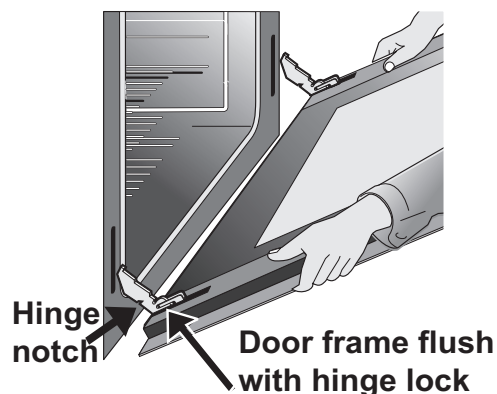

Figure 26: Remove door position
4. Pull the bottom of the door toward you while rotating the top of the door toward the appliance to completely disengage the hinge levers (Figure 26).
1. Firmly grasp both sides of oven door along the door sides. Do not use the oven door handle (Figure 26).
2. Hold the oven door at the same angle as the removal position. Carefully insert the hinge levers into the oven frame until you feel the hinge levers are seated into the hinge notches. The hinge arms must be fully seated into the hinge notches before the oven door can be fully opened. (Figure 26)